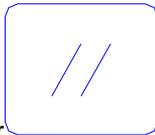

Fig. 1 Initial window
2. Connect with the power switch of CNC. The CNC will display the initial window as Fig. 1.